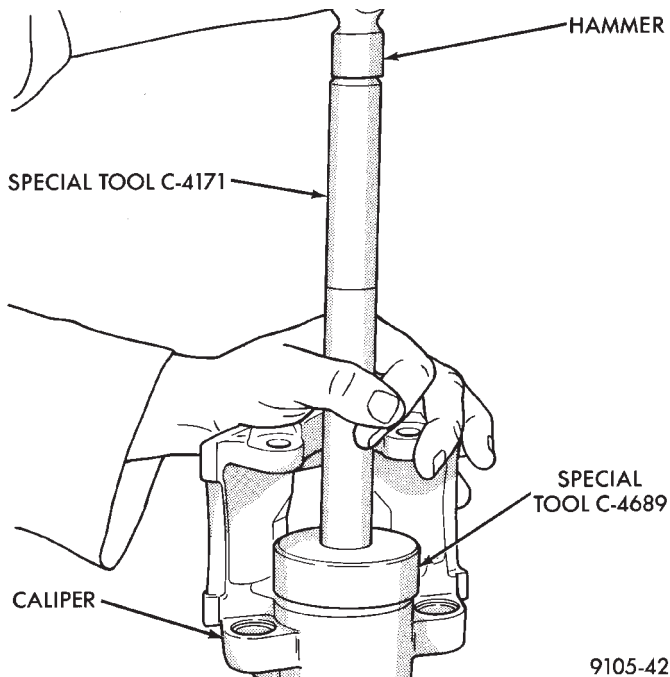

Fig. 171 Installing Dust Boot In Caliper Counterbore
(6) Position dust boot into the counterbore of the caliper assembly piston bore.
(7) Using a hammer and Installer Piston Caliper Boot, Special Tool C-4689 and Handle, Special Tool C-4171, drive boot into counterbore of the caliper (Fig. 171).